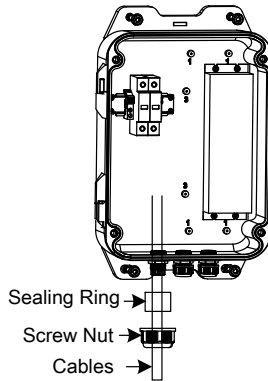

Figure 2-18 Seal the Cables
2. Lead the cables through the sealing ring, and the screw nut, as shown in Figure 2-18.